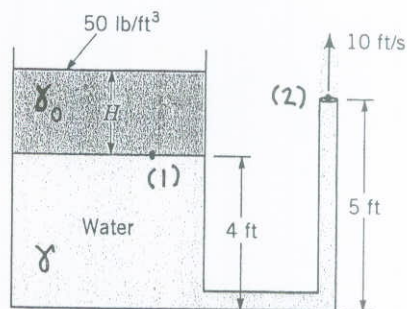

FIGURE P3.50
3.50 Water (assumed inviscid and incompressible) flows steadily with a speed of 10 ft/s from the large tank shown in Fig. P3.50. Determine the depth,  $H$ , of the layer of light liquid (specific weight = 50 lb/ft3) that covers the water in the tank.